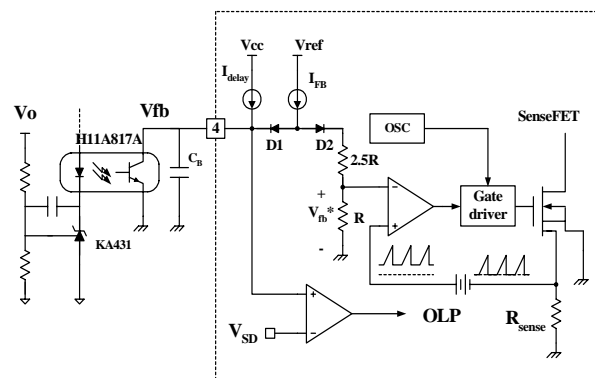

Figure 11. Pulse Width Modulation (PWM) Circuit
3. Feedback Control: The FSCQ-Series employs current mode control, as shown in Figure 11. An opto-coupler (such as Fairchild’s H11A817A) and shunt regulator (such as Fairchild’s KA431) are typically used to implement the feedback network. Comparing the feedback voltage with the voltage across the Rsense resistor plus an offset voltage makes it possible to control the switching duty cycle. When the reference pin voltage of the KA431 exceeds the internal reference voltage of 2.5V, the H11A817A LED current increases, pulling down the feedback voltage and reducing the duty cycle. This event typically happens when the input voltage is increased or the output load is decreased.
3.1 Pulse-by-Pulse Current Limit: Because current mode control is employed, the peak current through the SenseFET is limited by the inverting input of the PWM comparator (Vfb*) as shown in Figure 11. The feedback current (IFB) and internal resistors are designed so that the maximum cathode voltage of diode D2 is about 2.8V, which occurs when all IFB flows through the internal resistors. Since D1 is blocked when the feedback voltage (Vfb) exceeds 2.8V, the maximum voltage of the cathode of D2 is clamped at this voltage, thus clamping Vfb*. Therefore, the peak value of the current through the SenseFET is limited.